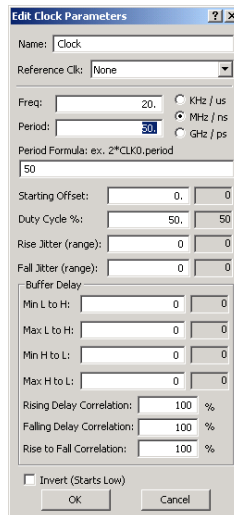

Figure 3-13. Edit Clock Parameters in WaveFormer Lite
2. Double-click any clock segment to edit the clock parameters (Figure 3-13). Set a frequency of 20 MHz.